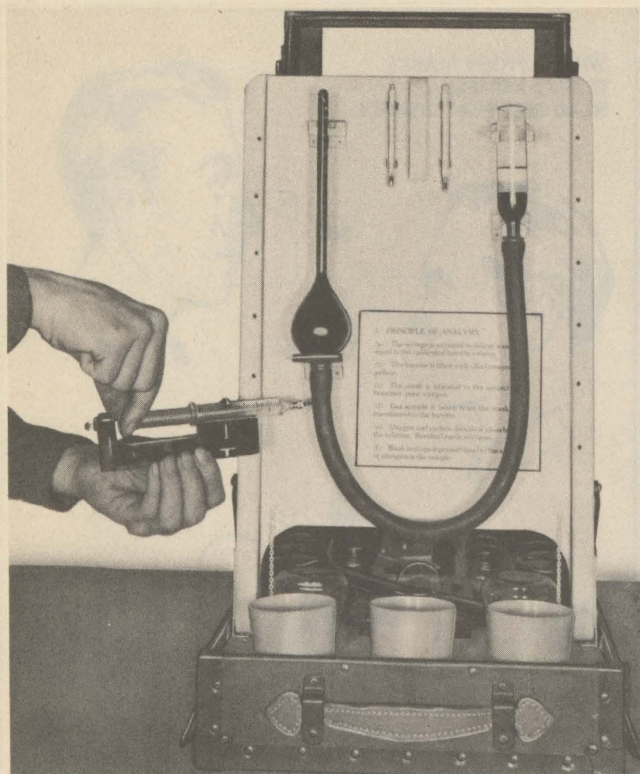

Figure 9-6. Type K-2 Oxygen Testing Kit
d. Determine the percent of leakage by using the oxygen testing kit, type K-1 or K-2 (figure 9-6), as described in T.O. No. 03-50-26. For flights above 30,000 feet the demand mask must not leak more than 5 percent. For flights at lower altitudes a leak of 12 percent may be tolerated.